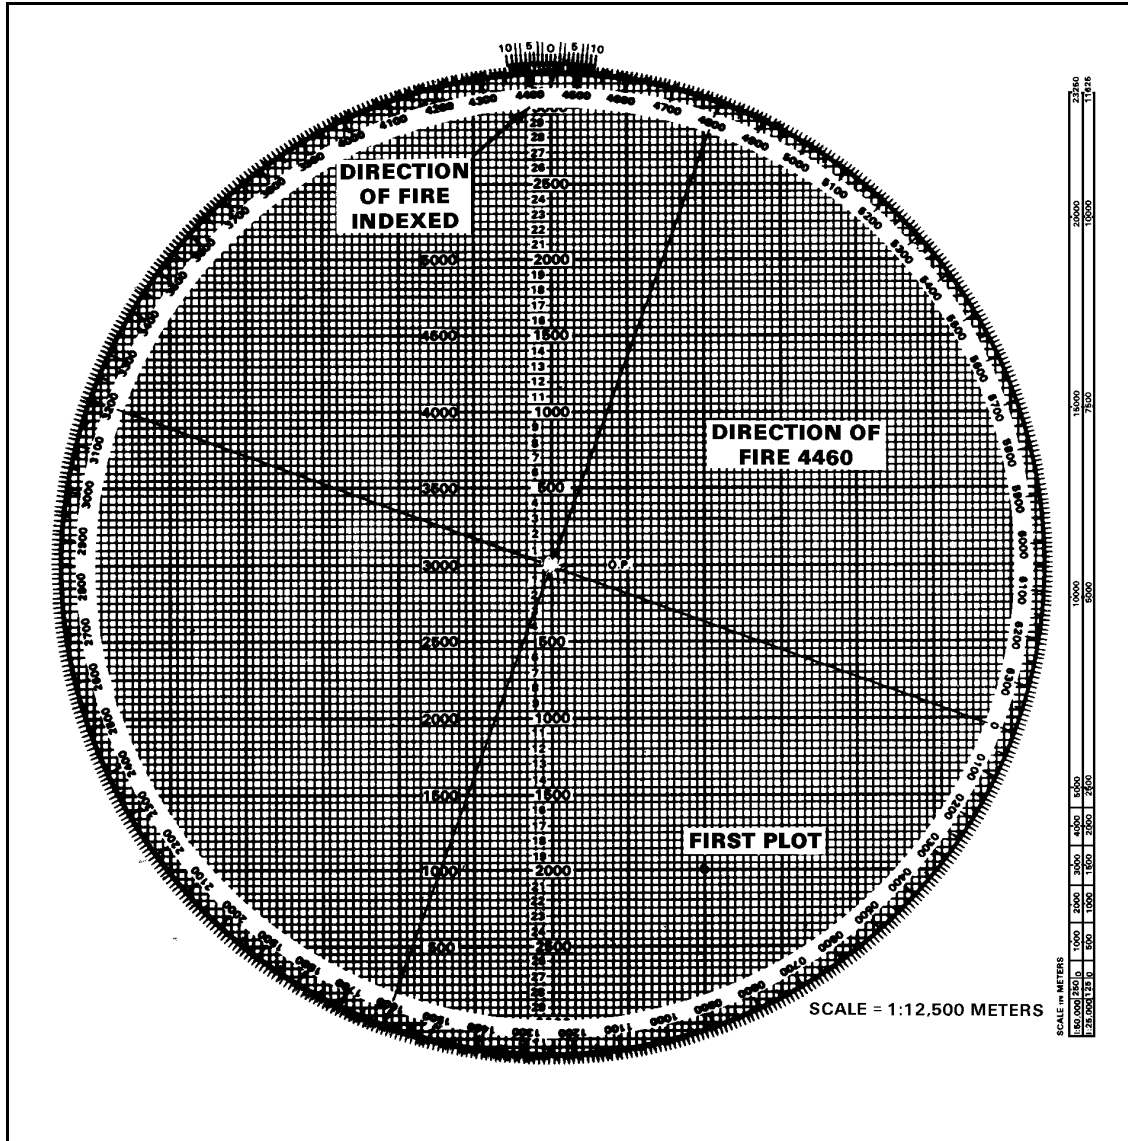

Figure 12-18. First plot.
- (1) Index the DOF.
- (2) Drop below the pivot point on the vertical centerline 2,000 to 2,500 meters.
- (3) Go 500 to 1,000 meters left or right of the vertical centerline and make a plot (Figure 12-18).